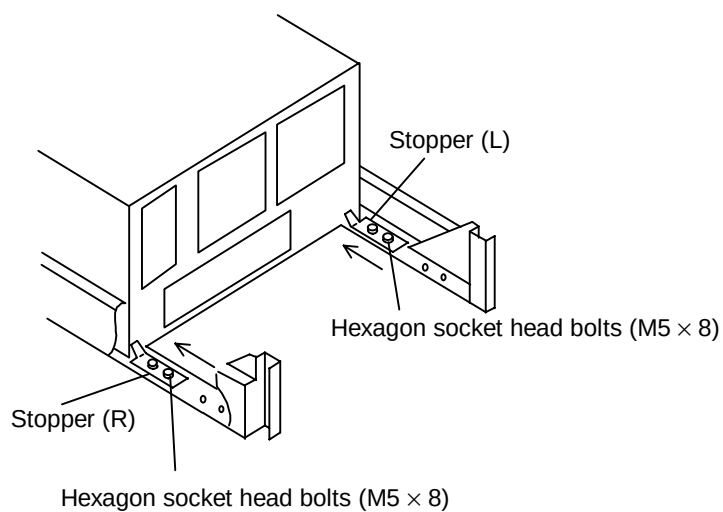

Figure 3.4.7 Securing the Rear Side
3.4.6 Securing the rear side (See Figure 3.4.7.)